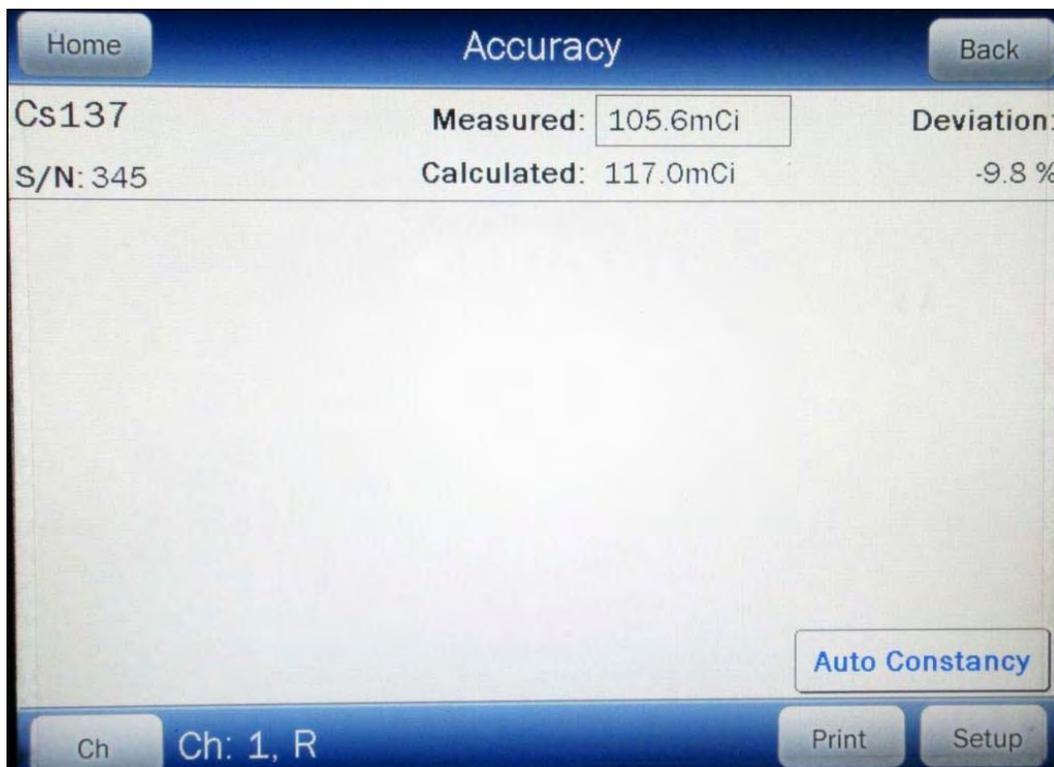

Figure 8-15 Accuracy Test Results Screen
Touch the **ACCEPT** button to accept the measurement. The screen will be similar to that shown in Figure 8-15 Accuracy Test Results Screen.
The Constancy Test is automated. From Figure 8-15 Accuracy Test Results Screen, touch the **AUTO CONSTANCY** button.
- Touch the **BACK** button to exit the Auto Constancy Test and return to Figure 8-15 Accuracy Test Results Screen.